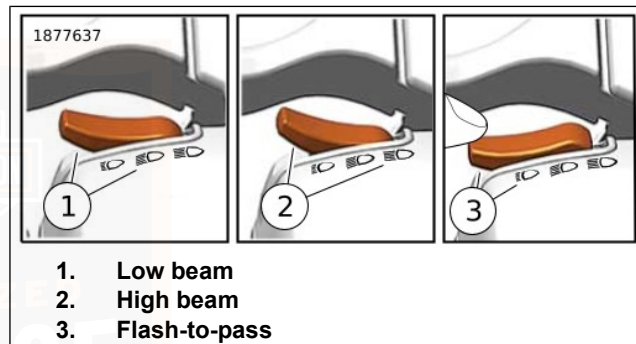

Figure 25. Headlamp Switch
**High beam:** See Figure 25. Push the headlamp switch up to activate the high beam. The (blue) high beam indicator in the IM is lit when the high beam is on. Refer to Table 29.